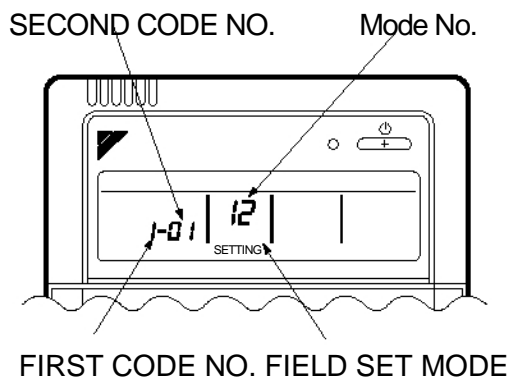

Fig. 29
- When in the field set mode, select mode No. 12, then set the first code (switch) No. to "1". Then set second code (position) No. to "01" for FORCED OFF and "02" for ON/OFF OPERATION. (FORCED OFF at factory set) **(Refer to Fig. 29)**